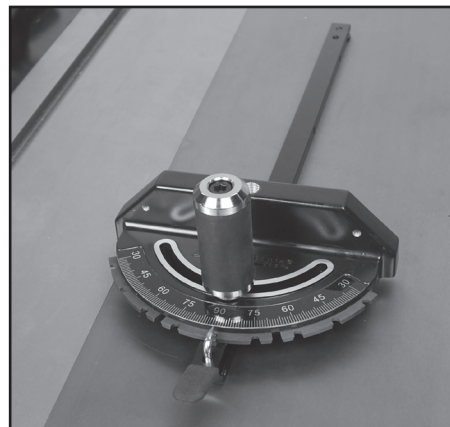

FIG. 16
2. Tighten threaded post into hole (U) on miter gauge body. Assembled miter gauge shown in Fig. 16.